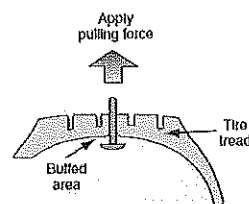

FIGURE 4-15 Plug installation procedure.
4. While holding and stretching the plug, pull the plug into the puncture from the inside of the tire (Figure 4-15). The head of the plug should contact the inside of the tire. If the plug pulls through the tire, repeat the procedure.